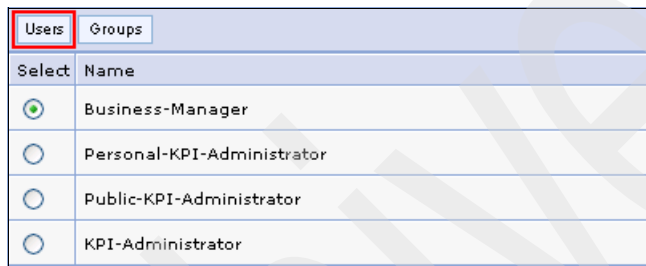

Figure A-56 Adding a user to the Business-Manager role
2. Select **Business-Manager** and click the **Users** button (Figure A-56).